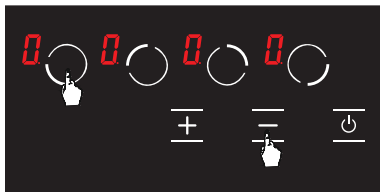

Figure 14
1. Press front left hob selection key (●) and minus key (−) simultaneously, you shall hear a short warning signal at this time. (see Fig. 14) Then, remove your fingers from the stove control panel.